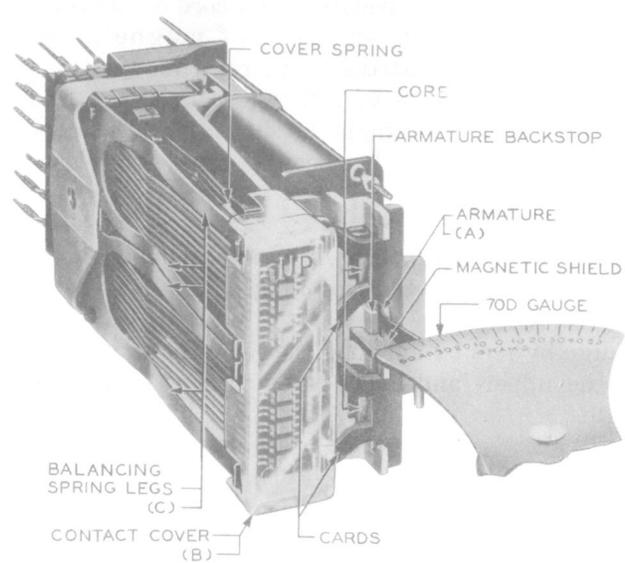
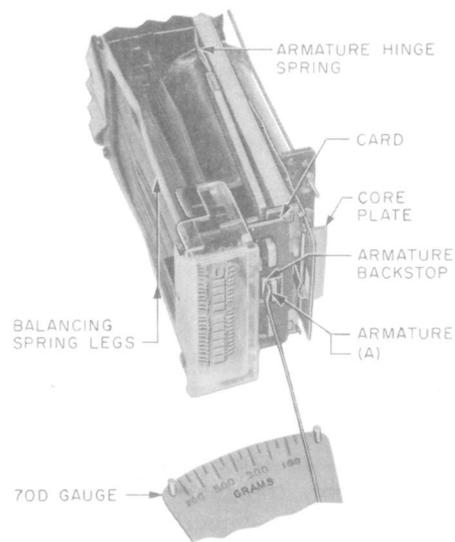

Fig. 2—AM Tye Relay-Gauging Armature Back Tension
Fig. 4—Method of Checking Armature Back Tension for AL Type Relay
2.06 Balancing Spring Tension: Fig. 2(C) and 3(B)—With the relay in the unoperated position, the combined tension of the balancing spring legs shall be sufficient to hold the card against the associated surfaces on the armature and the armature against its backstop. (See requirement 2.07.)
2.07 Armature Back Tension: Fig. 2(A) and 4(A)—The armature shall bear against its backstop with a pressure of:
Use the 62B or 70J gauge as follows. On AL-type relays, apply the gauge to the tip of the armature as shown in Fig. 4(A). On AM-type relays, apply the gauge to the armature in front of the armature backstop as shown in Fig. 2(A), making sure that the gauge clears the backstop and magnetic shield.